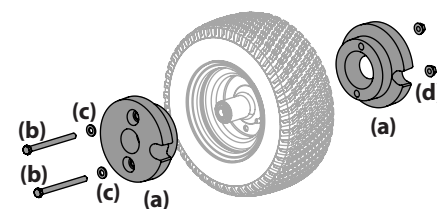

Figure 49
2. Remove the two 25-lb weights (a) on each tire by removing the two hex screws (b), flat washers (c) and flange lock nuts (d) that secure them to the rims. See Figure 49.